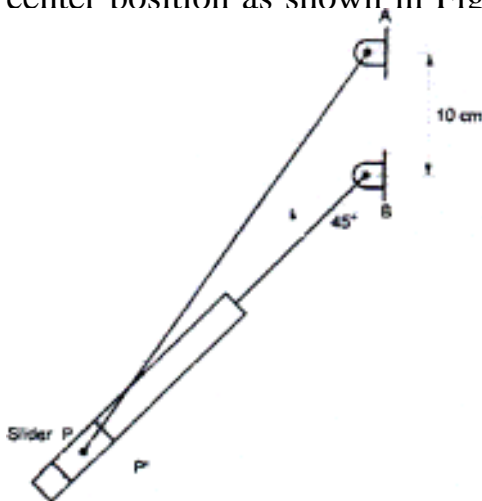

Fig. 4
- b) The cylinder of rotary engine rotate at uniform speed of 900 rpm clockwise about the lower end B of a fixed vertical crank AB 10 cm long. The connecting rod AP 40 cm rotates about the upper end. The piston P reciprocates in cylinder. Determine the angular acceleration of the connecting rod for a cylinder which has turned through an angle of 45° past the dead center position as shown in Fig. 4. 12